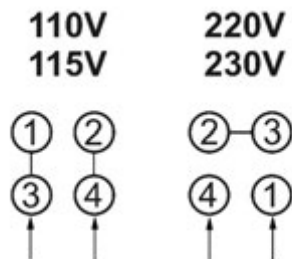

Figure 7-2: Main Motor Wiring
- 1) Open main motor junction box cover, and change leads based on wiring diagram inside cover. This diagram is also shown in Figure 7-2. (NOTE: In case of discrepancy, diagram inside junction box cover takes precedence.). Reinstall cover.